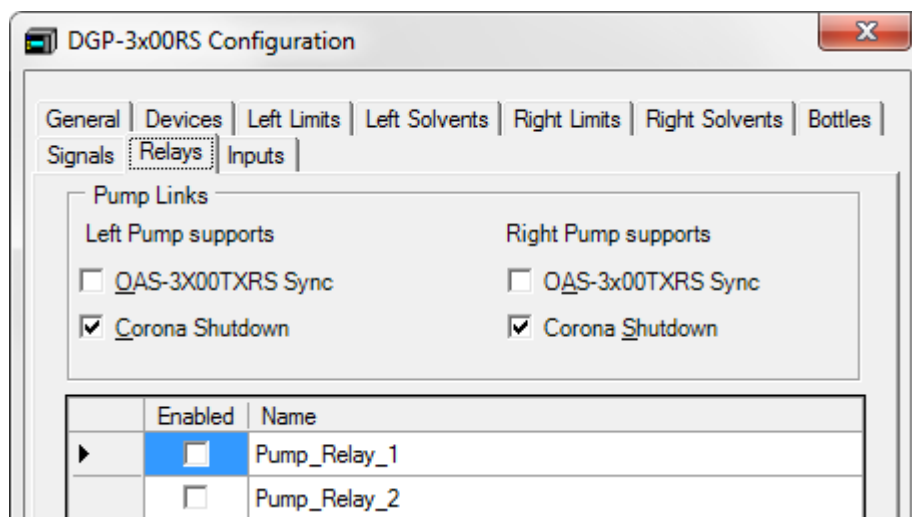

Fig. 53: Relays page (here for a DGP-3600 pump)
- ♦ In the Chromeleon Server Configuration program, in the Properties dialog for the pump, on the **Relays** page, in the **Pump Links** group, the pump is selected by the **OAS-3x00TXRS Sync** check box (→ Fig. 53, page 104).